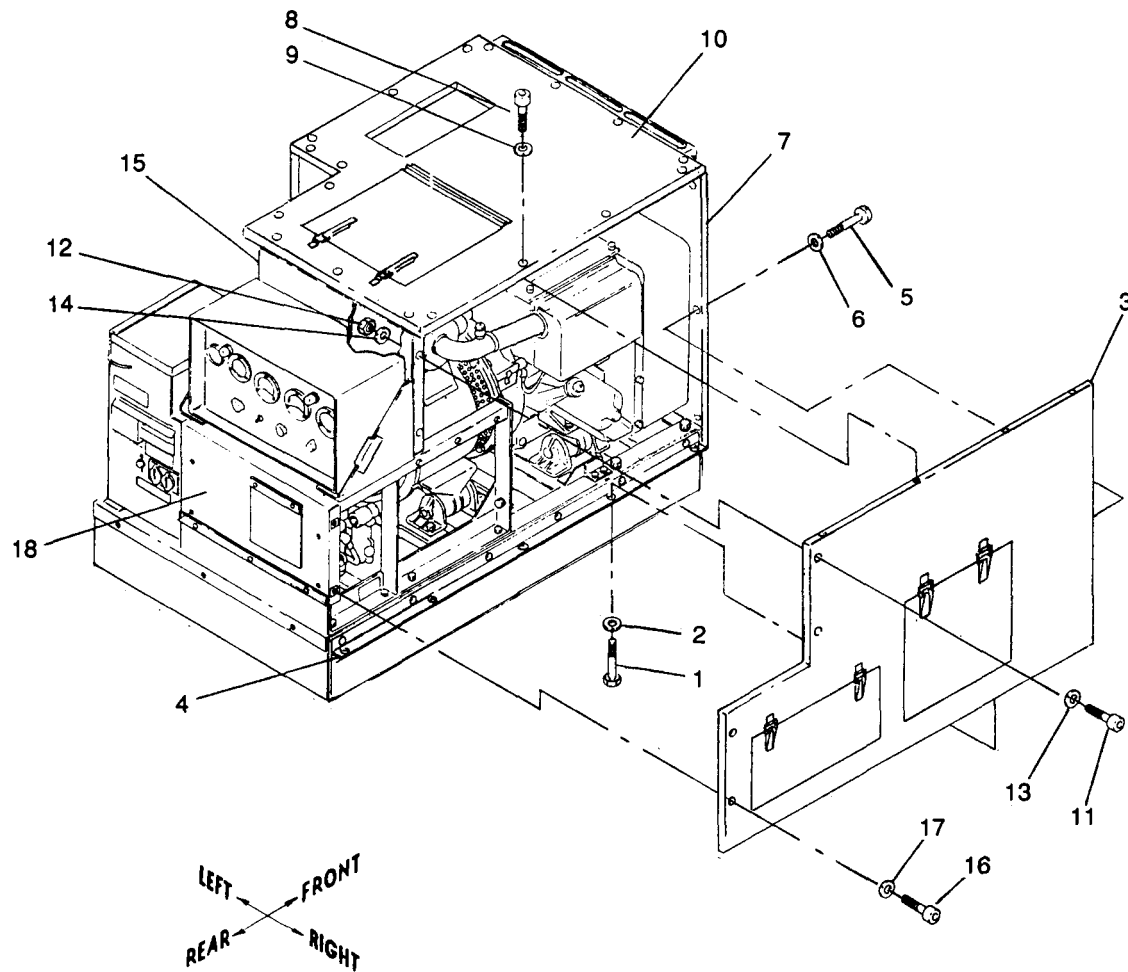

Figure 5-5. Right Panel Assembly, Removal and Installation
a. Removal. See figure 5-5. Remove right panel assembly from right support assembly, rear closure assembly and rear, top and front panel assemblies as follows:
(1) Remove five screws (1) and washers (2) securing right panel assembly (3) to right support assembly (4).
(2) Remove three screws (5) and washers (6) securing right panel assembly (3) to front panel assembly (7).
(3) Remove four screws (8) and washers (9) securing right panel assembly (3) to top panel assembly (10).
(4) Remove two screws (11) and locknuts (12), and four washers (13 and 14) securing right panel assembly (3) to rear closure assembly (15) and remove two screws (16) and washers (17) securing right panel assembly (3) to rear panel assembly (18) and lift off right panel assembly (3).
b. Installation. See figure 5-5. Install right panel assembly to right support assembly, rear closure assembly and front, top and rear panel assemblies as follows:
(1) Position right panel assembly (3) on right support assembly (4) and install two screws (16) and washers (17) securing right panel assembly (3) to rear panel assembly (18), and install two screws (11) and locknuts (12), and four washers (13 and 14) securing right panel assembly (3) to rear closure assembly (15).
(2) Torque screws (16) to 18 \pm 2 ft-lbs dry.
(3) Torque screws (11) to 16 \pm 2 in.-lbs dry.
(4) Install four screws (8) and washers (9) securing right panel assembly (3) to top panel assembly (10).
(5) Torque screws (8) to 18 \pm 2 in.-lbs dry.
(6) Install three screws (5) and washers (6) securing right panel assembly (3) to front panel assembly (7).
(7) Torque screws (5) to 18 \pm 2 in.-lbs dry.
(8) Install five screws (1) and washers (2) securing right panel assembly (3) to right support assembly (4).
(9) Torque screws (1) to 18 \pm 2 in.-lbs dry.